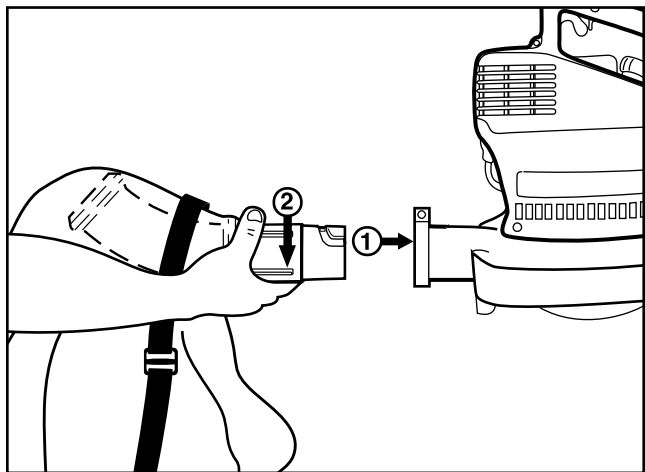

Fig. 3
3. Grasping the tube **firmly** with both hands, push the vacuum bag/elbow tube assembly into the blower outlet (Fig. 3). Turn the assembly **clockwise** until it snaps into the detent and locks. The curve of the tube should angle upwards.